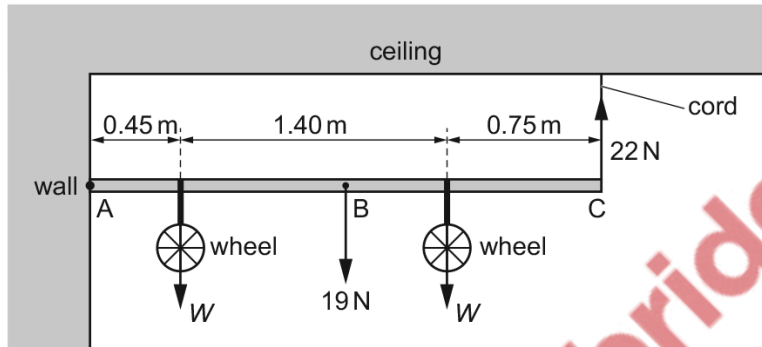

Fig. 3.1 (not to scale)
- (b) In a bicycle shop, two wheels hang from a horizontal uniform rod AC, as shown in Fig. 3.1.